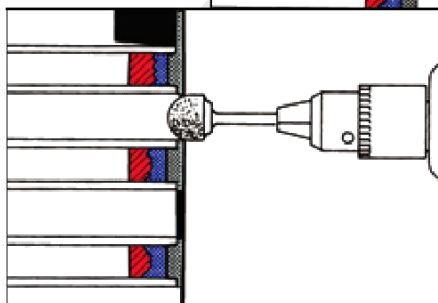

Figure 9
- Use a conical grinding bit to smooth the edges where epoxy meets the tube to allow better flow (Figure 9).